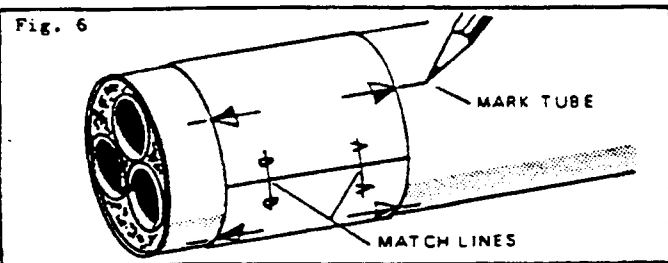

Fig. 6
(6) Using fine grit sandpaper round all edges of the fins except the edge which attaches to the body tube. Sand this root edge until it is perfectly flat and even. Sand the sides of the fins until smooth.
(7) Cut out the fin spacing guide on the dotted lines. Wrap it around the rear of the body tube with the printing on the guide on the outside. Mark the body at the points indicated by the arrows. Connect the marks. See fig. 6.